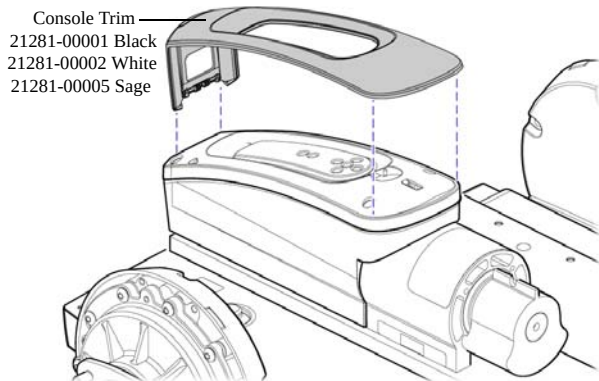

Figure 6-4: Remove or Install Console Trim
2. Pull up on front portion of trim and tilt it away from charge port. See Figure 6-4.
3. Tilt front portion of console trim to engage with console. See Figure 6-4.